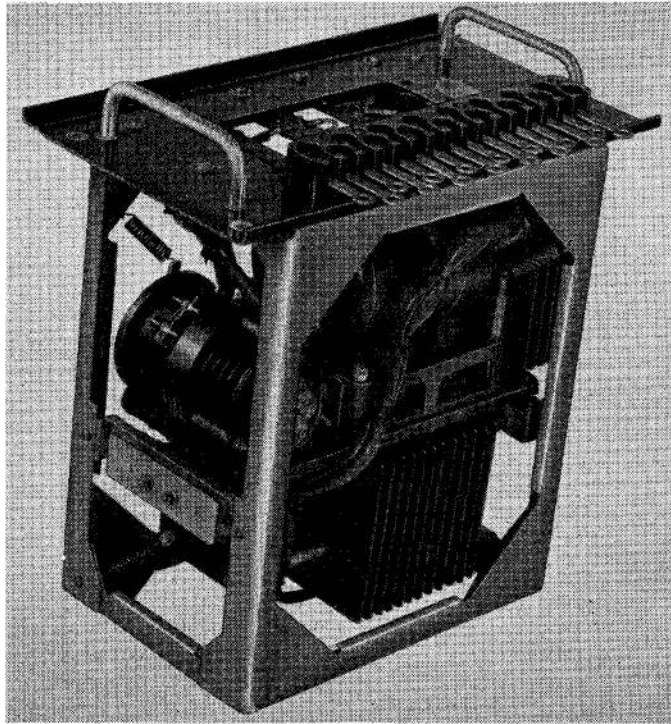

Fig. 2. Rear view of regulator unit
4. The three regulators are mounted on a single mounting panel, the L.V. and M.V. regulators being secured to one side, and the a.c. regulator secured to the other side, as shown in fig. 2. The regulators and mounting panel assembly are anti-vibration mounted, whereby eight tension springs keep the complete regulator and mounting panel assembly in full suspension within the chassis framework.